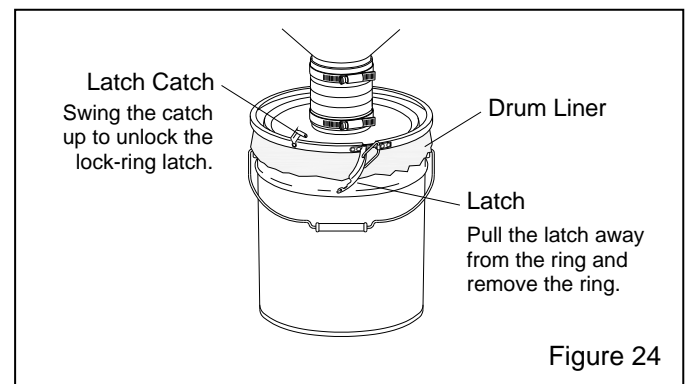

Figure 24
**6.1.2** Turn off the exhauster and release the lid lock ring from the dust container as shown in Figure 24.